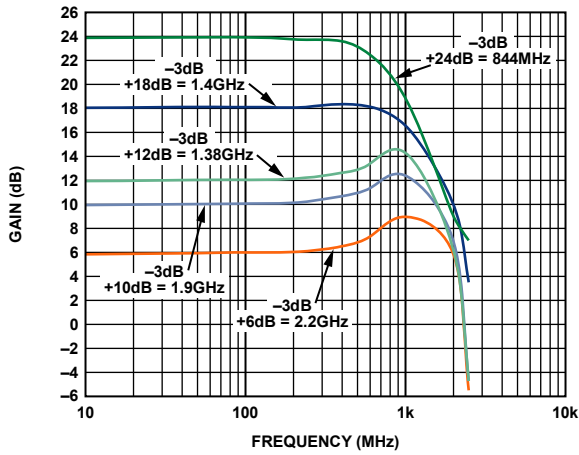
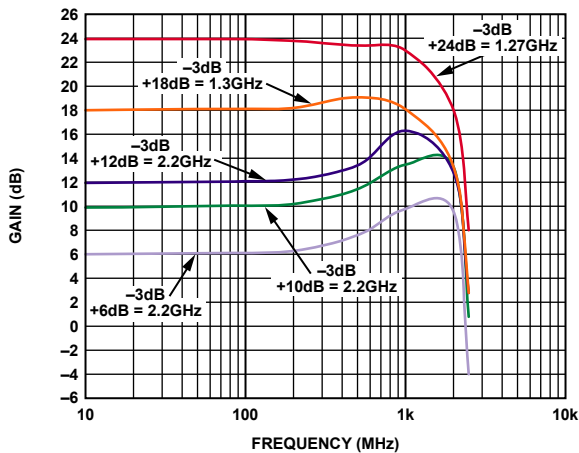
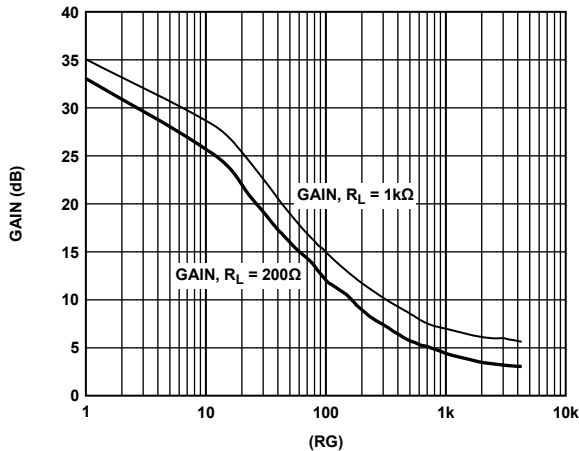

Figure 4. Gain vs. Frequency for a 200 Ω Differential Load ($A_v = 24, 18, 12, 10,$ and 6 dB)
Figure 6. Gain vs. Frequency for a 1 k Ω Differential Load ($A_v = 24, 18, 12, 10,$ and 6 dB)
Figure 18. Gain vs. RG
The AD8352 can be configured as a single-ended to differential amplifier. To balance the outputs, when only driving the VIP input, an external resistor (RN) of 200 Ω is added between VIP and RGN. Using the gain vs. frequency graph shown in Figure 18, RG can be selected for the desired gain and load. The distortion cancellation selection components, RD and CD, can be determined for the gain and load required (see Table 7 and Table 8). This configuration provides -3dB bandwidths similar to differential drives see Figure 4 and Figure 6.